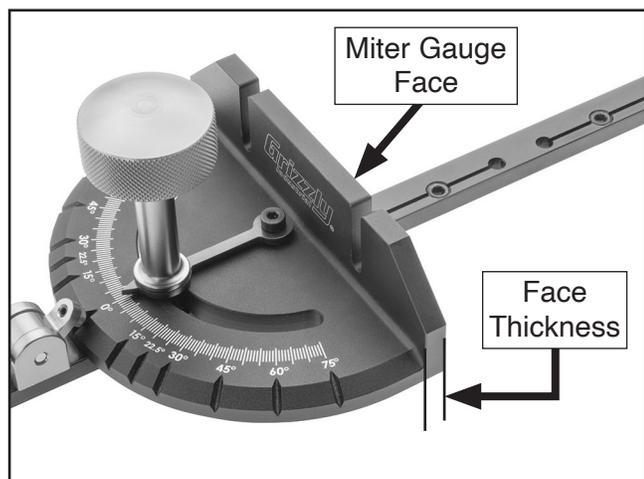

Figure 2. Example of miter gauge face thickness.
1. Measure thickness of miter gauge face (see **Figure 2**).